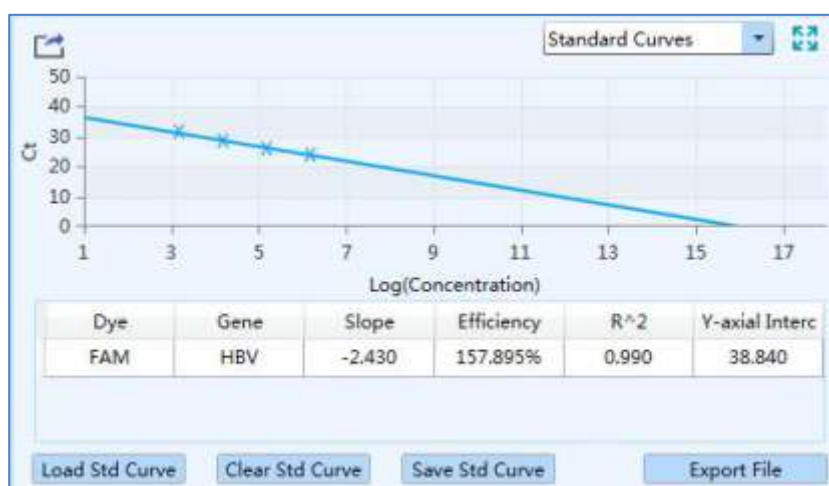

Figure D-9.2 Abs Quant analysis interface - Standard Curves functional module
**II. Standard Curves:** displays the threshold Ct value against the initial nucleic acid quantity of each standard sample, as shown in figure D-9.2. For absolute quantification, the standard curve is used to assign initial nucleic acid quantities to unknown samples.